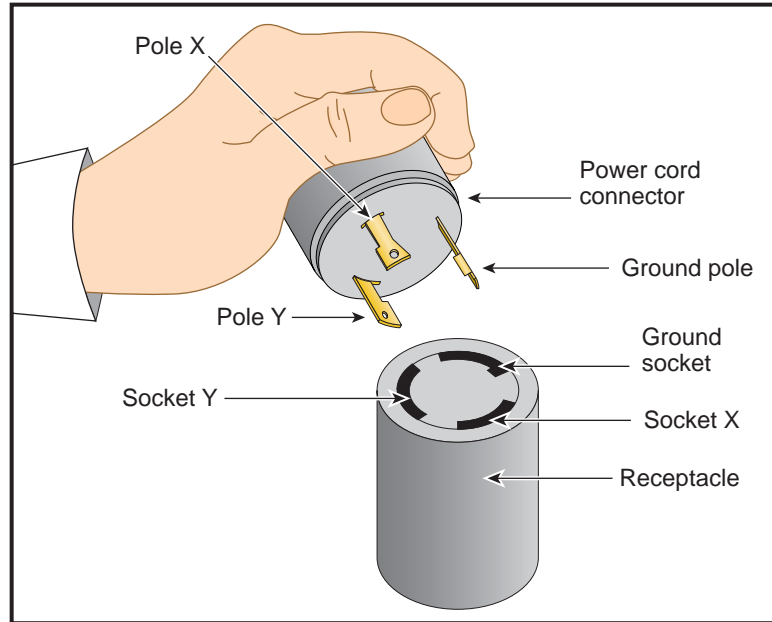

Figure 1-1 30-amp Single-phase Power Receptacle for North American Sites
2. Check the voltage between socket X and socket Y (see Figure 1-1). The meter should read between 200 and 240 VAC.